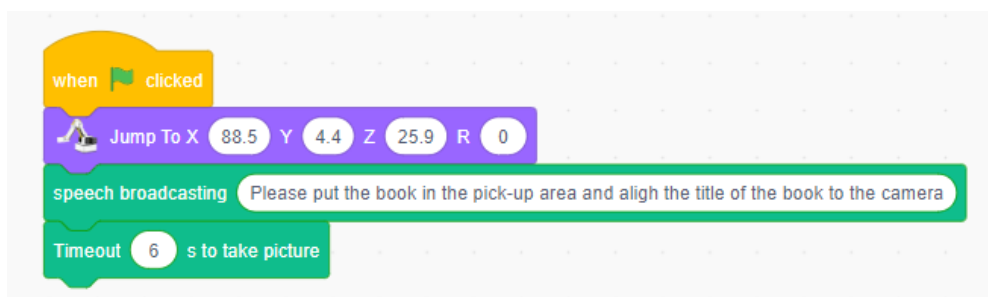

Figure 5.19 Initializing the position of the robotic arm
Step 5: Start writing the OCR book returning program. Set the initial position of the robotic arm, prompt the student by voice to place the book in the book pickup area, and open the camera, as shown in Figure 5.19.